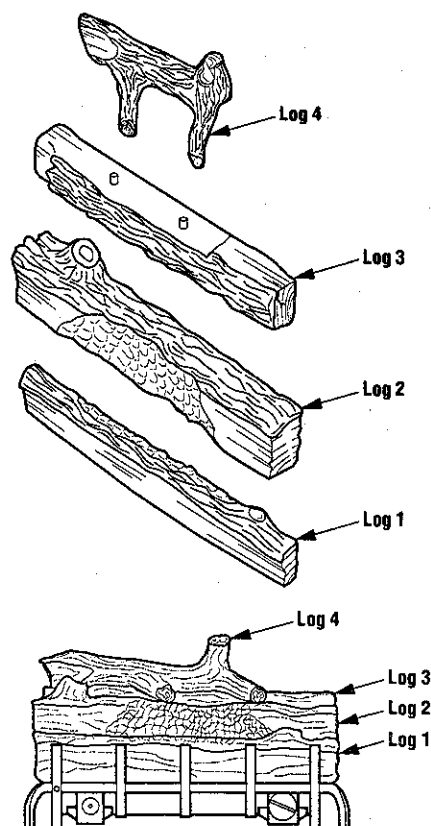

Figure 19
Step 11. The heater includes a set of four (4) ceramic fiber logs. The heater and logs are assembled as shown in Figure 19. Handle these logs with great care. The logs can be easily damaged, but when handled properly they can provide years of performance and enjoyment.